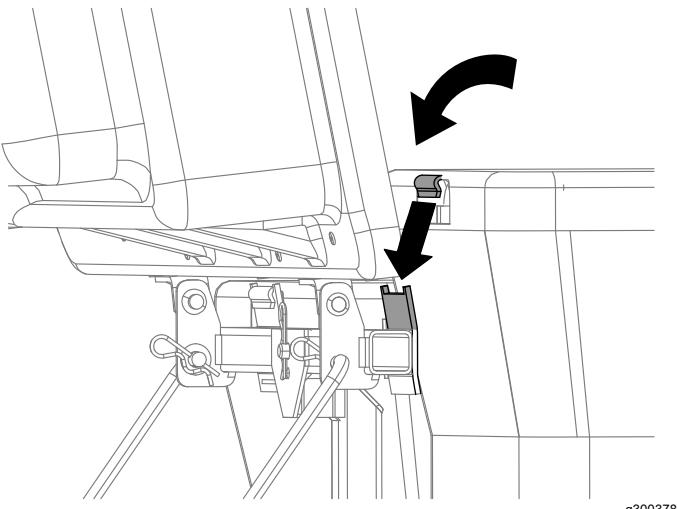

Figure 18
4. Lift the bagger top and install the bags by sliding the bag frame hooks onto the retaining brackets (Figure 18).